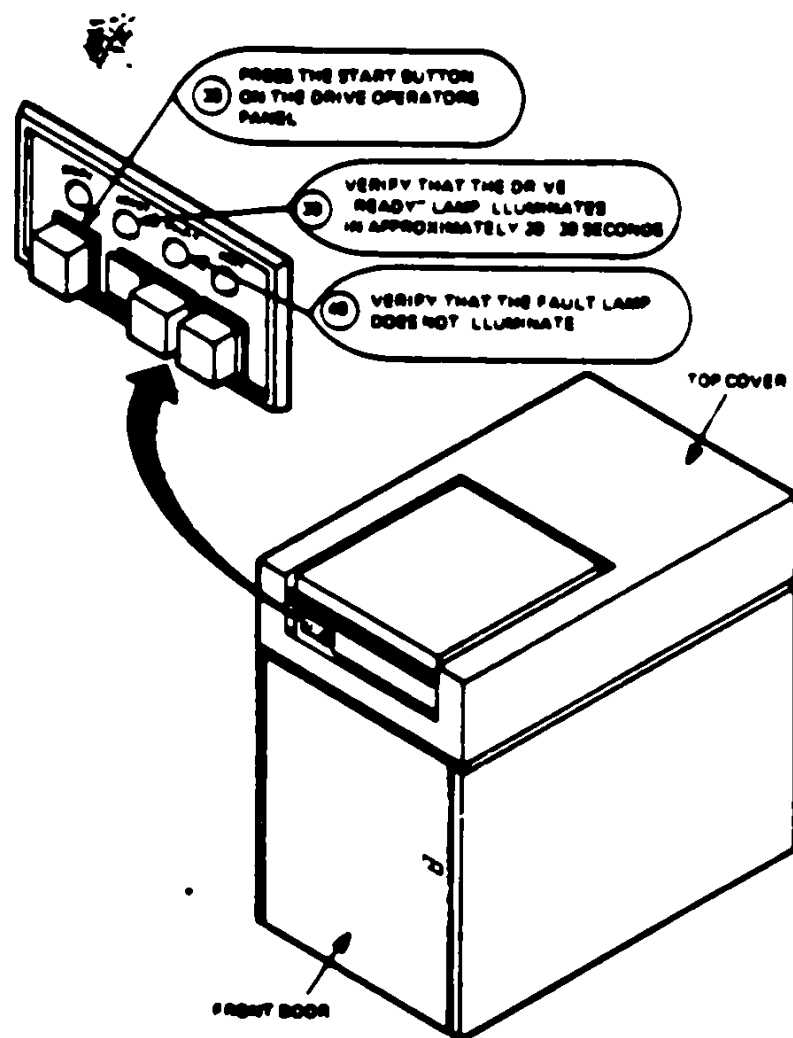

FIGURE 15 RM05 OPERATORS PANEL
38. Press the start button on the drive operator panel. (See Figure 15)
39. Verify that the drive "READY" lamp illuminates in approximately 20-30 seconds. (See Figure 15)
40. Verify that the FAULT lamp does not illuminate and that no FAULT condition exists. (Figure 15)
41. Verify that the drive operation using any of the available diagnostics on the site. Thirty (30) minutes run time should be sufficient.